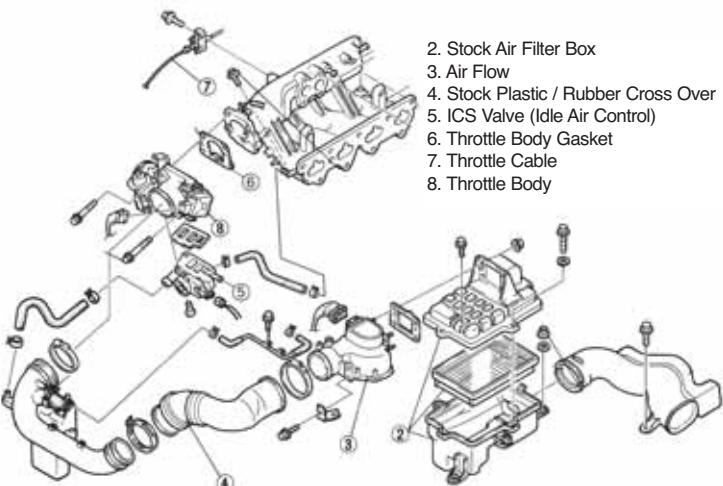

FIGURE 1.4
1.4 Remove the chrome crankcase vent pipe that is attached to the front of the cam cover and the rubber hose that leads into the cam cover (**Figure 1.4**). These can be stored away. However, find the small restrictor inside the rubber hose that ran from the cam cover to the chrome tubing. It can be felt as a lump in the straight section of the hose near the chrome tube end. Persuade it out by gently clamping the hose with a pair of pliers just behind the "lump". Save this restrictor for step #7.8. Re-install the chrome bolts that held the tubing in place. Store the chrome tube and Mazda hoses away.
2.1 Remove the throttle body (**Figure 1.4**) by releasing the two electrical connectors (one has a spring wire, one has a plastic lever clip), the two small coolant hoses on either side of the lower Idle Control System (ICS) valve, and the four bolts.